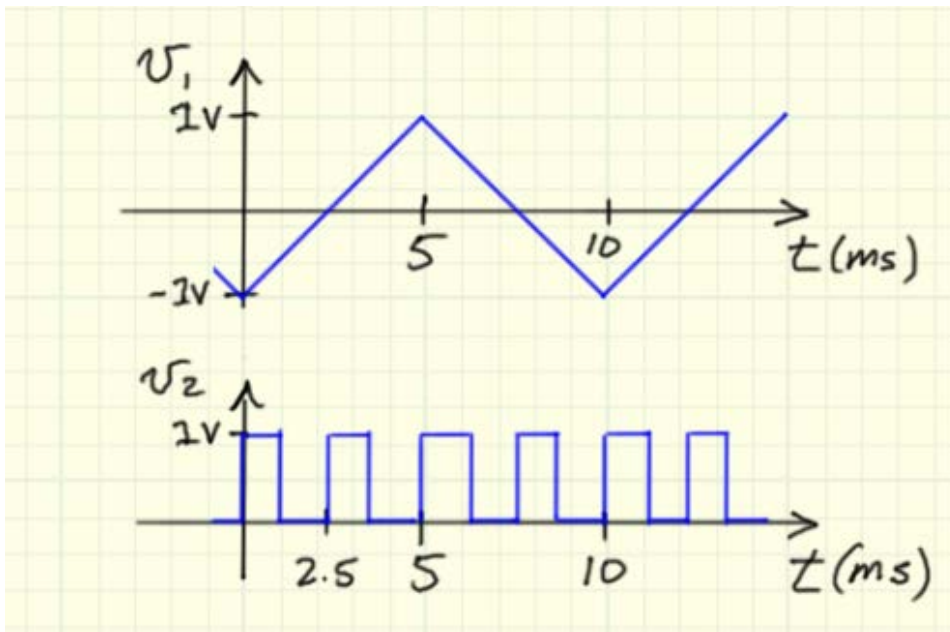

Figure 4.4: Input waveforms for Problem 4.3
2. Draw the output waveform v_o for the input waveforms v_1 and v_2 shown in Figure 4.4 and $v_3 = 4.7$ volts.
- Specify the PWL voltage source waveform by entering endpoints of straight lines as time-voltage pairs. The triangle waveform of Figure 4.4 on the previous page requires only three entries to specify a complete period. Select “Repeat data during simulation” to create a periodic triangle waveform.